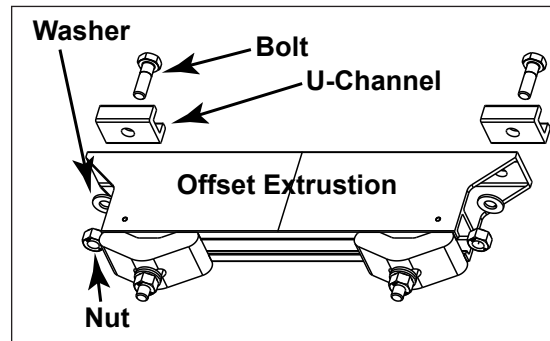

Figure 4: Offset Extrusion Assembly
10. Starting from the center of the display, mark the upright locations on the back of the display. These marks indicate the offset extrusion mounting location. See **Figure 4**.